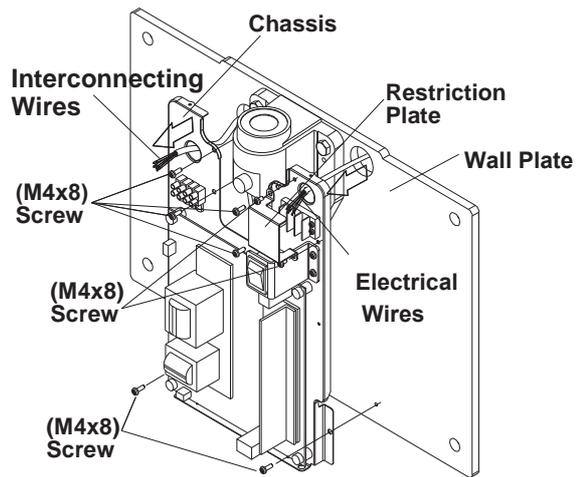

Fig.3-3 Attaching Chassis to Wall Plate
1. Remove the restriction plate over the terminal blocks by taking out two (M 4 x 8mm) screws. **(Fig.3-3)**
2. Route electrical interconnecting wires and power supply wires through the access holes on chassis and mount the chassis on the arm bracket with three of four (M4 x 8mm) screws. (A screw at lower right corner should be secured with a green wire from arm at setp D 6. on page 10.) Secure the bottom corner of chassis with two (M4 x 8mm) screws to the wall plate. **(Fig.3-3)**
4. Reattach the restriction plate. **(Fig.3-3)**